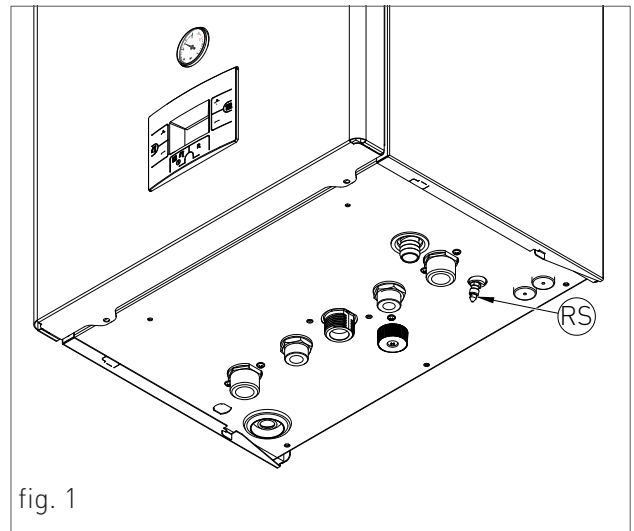

fig. 1
- > remove the fastening screws (1 - fig.1) placed on the lower edge of the front panel;
- > grab the front panel from the bottom and remove it pulling it to yourself and then upwards (see fig. 1).
- > remove the fastening screws (2 - fig.1) placed on the front edge of the side panel;
- > grab the bottom of the panel and remove it by moving it sideways and then pulling it upwards (see fig. 1).
- > Grab at the same time the support brackets of the control panel (fig. 1) loosening them and turn the panel downwards;
- > unscrew the two fastening screws 1 - fig. 1;
- > disengage the four hooks '2' - fig. 1;
- › turn the discharge tap of the system ‘RS’ (fig. 1);